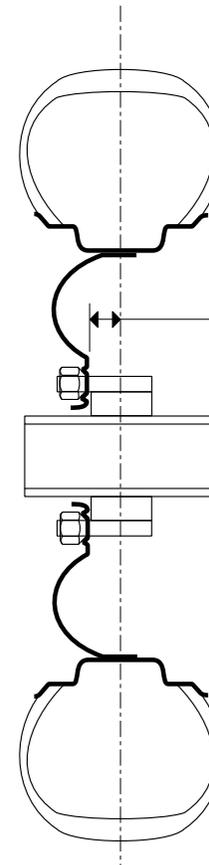

Figure 3: CROSS SECTION OF TYRE WHEEL AND HUB TUBE SHOWING CENTERING OF HUB TUBE
- The next step is to weld the stud bolts or bits of threaded rod onto the struts. When you've done this you can put the studs into the wheels, put the nuts on, and get everything even and straight with the hub pipe in as well. You might find that holding the hub tube in the wheel with some wedges, as shown in Figure 2 makes things easier. Also don't forget that you want to get the middle of hub pipe level with the middle of the tyre, as is shown in Figure 3. Most wheels need the studs to be about 40mm offset and this is what is on the drawings. When you are happy, tack weld